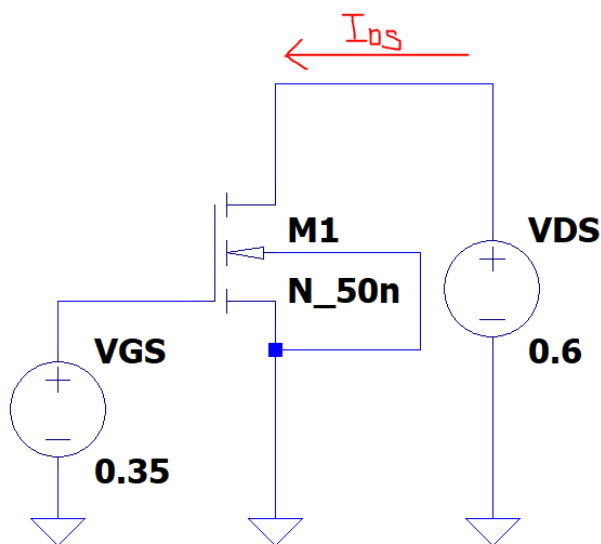

Figure 2.1 Simple characterization schematic for DC analysis
Every analog designer should know by heart how our transistors behave in both large-signal (DC) perspective. It is in the DC view where we start to build an intuitive understanding of how our transistors work. However, the DC behavior of our transistors is non-linear. This means the current and voltage relationship does not follow Ohm's Law (i.e.  $V = IR$  or  $I = V/R$ ) because the current is a complicated function of  $V_{GS}$  and  $V_{DS}$ . The small-signal (AC) analysis linearizes our transistor by operating our device at a certain bias and applying a small-signal input only. This means we are only interested in a very small region where our devices look linear. *This is equivalent to taking the derivative of our current equation with respect to one voltage input (i.e.  $V_{GS}$  or  $V_{DS}$ ). Which by now, you should know as our small-signal parameters.* Let's prove this concept through an example. Consider our basic characterization circuit in Figure 2.1. This is schematic "lab05\_nmos\_char.asc". You may open it if you like a side-by-side comparison with this discussion. Let's also assume that this NMOS has  $W = 10\text{ }\mu\text{m}$  and  $L = 1\text{ }\mu\text{m}$ . We know that the output current  $I_{DS}$  is a function of both  $V_{GS}$  and  $V_{DS}$ . This is evident from the current equation shown in Equation 1.